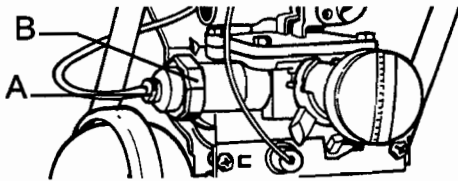

Fig. 14
- a) Disconnect thermocouple from thermoelectric valve (A) (see fig. 14).
- b) Undo nut retaining the thermoelectric valve (B).